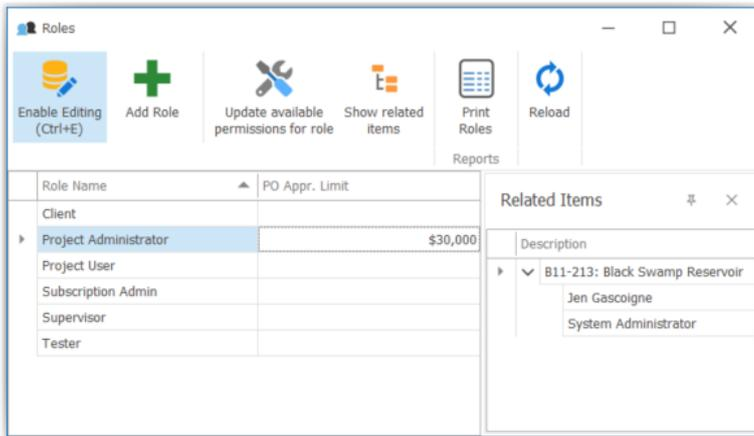

Figure 52 Setting a PO Approval Limit
3. The Roles details screen will appear. Enable editing and next to Project Administrator in the top grid enter in the approval limit amount of \$30,000 (see Figure 52).